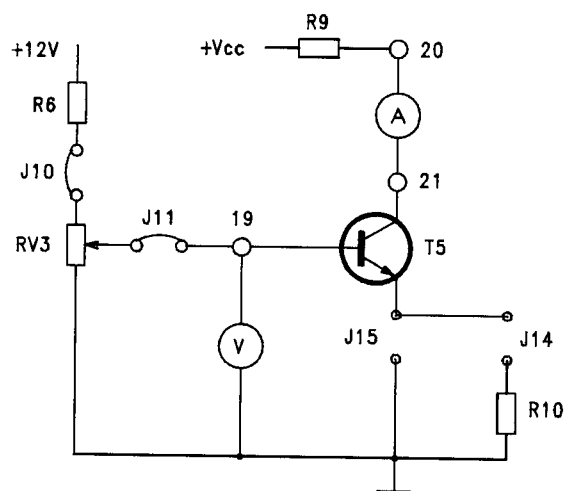

fig.B19.5
- Connect jumpers J10, J11, J15, and the meters as in figure B19.5, with V_{CC} set to 20 V